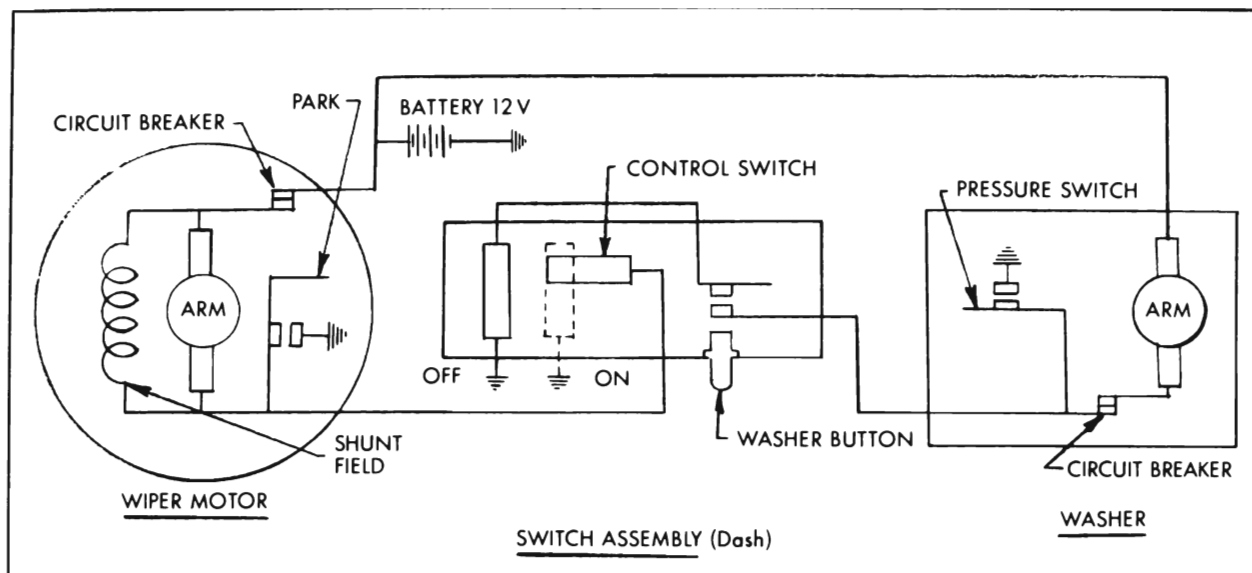

Figure 1-12—Wiring Diagram Single Speed System
Two switches, a dash switch and parking switch control the starting and stopping of the wiper unit. The parking switch contacts, which are located internally on the wiper unit terminal board at the bottom of the wiper gear box, are actually connected across the dash switch and act as a set of holding contacts when the dash switch is turned "off." This keeps the wiper circuit closed so the wiper can keep operating until the blades reach their predetermined park position. When the blades reach the park position, the parking switch contacts, which are controlled through the wiper gear, are opened stopping the wiper. See Figure 1-12.
2. With ignition switch on check for 12 volts at feed wire terminal that connects to the No. 2 wiper terminal (Figure 1-12). No voltage reading indicates faulty car wiring.
3. If correct voltage is obtained in step 2, connect 12 volts to No. 2 terminal (Figure 1-12) and connect a jumper wire from the No. 1 terminal to ground. If wiper operates, a defective dash switch is indicated.